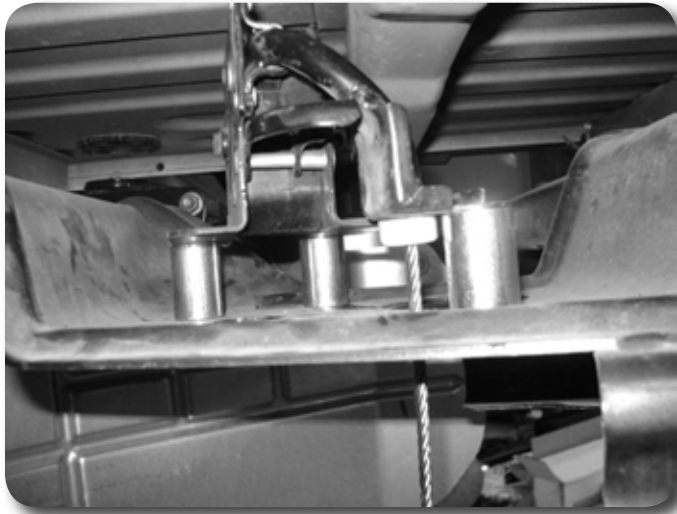

Figure 24
39. Install the (3) 1.5" spacers below the spare tire crank. Attach with new 8mm hardware. Tighten to 30 ft-lbs. Figure 24